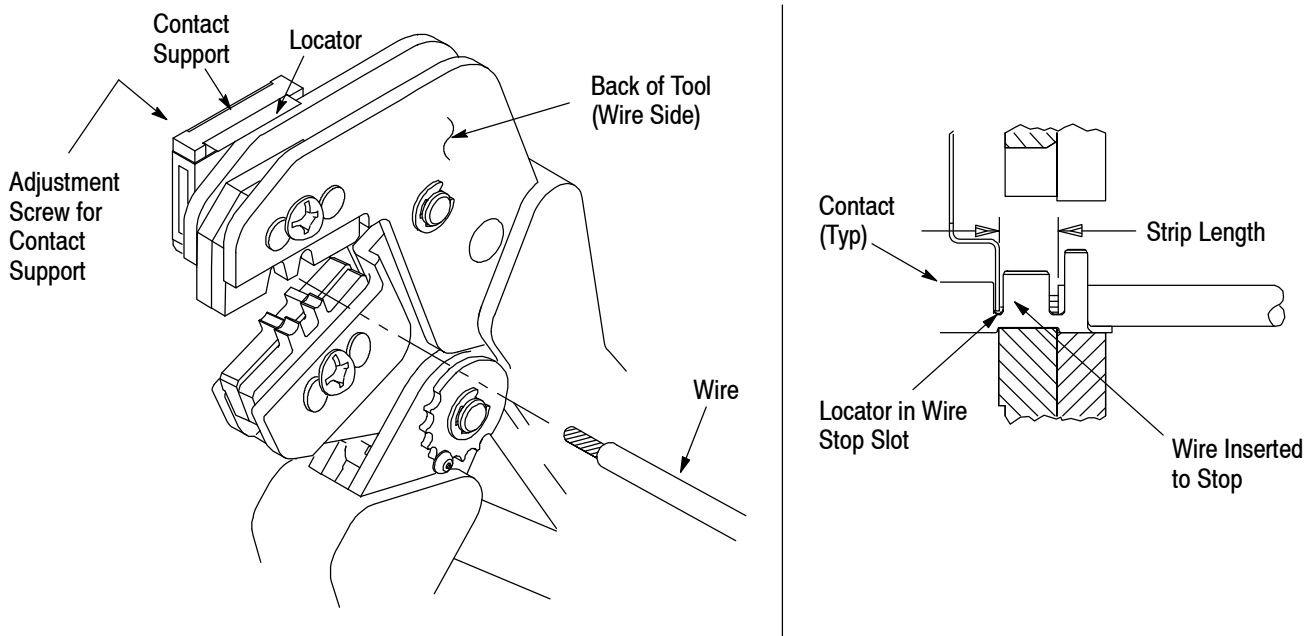

Figure 3
**4. CONTACT SUPPORT ADJUSTMENT** (Figure 3)
Refer to the table in Figure 1 and select wire of the specified size and insulation diameter. Strip the wire to the length indicated in Figure 1, taking care not to nick or cut wire strands. Select an applicable contact and identify the appropriate crimp section according to the wire size markings on the tool. Refer to Figure 3 and proceed as follows:
3. Position the contact so that the mating end of the contact is on the locator side of the tool, and so that the open “U” of the wire and insulation barrels must face the top of the tool. Place the contact up into the nest so that the movable locator drops into the slot in the contact. Refer to Figure 3. Butt the front end of the wire barrel against the movable locator.
5. Insert stripped wire into contact insulation and wire barrels until it is butted against the wire stop, as shown in Figure 3.
**NOTE** The crimped contact may stick in the crimping area, but the contact can be easily removed by pushing downward on the top of the locator (see Figure 3).